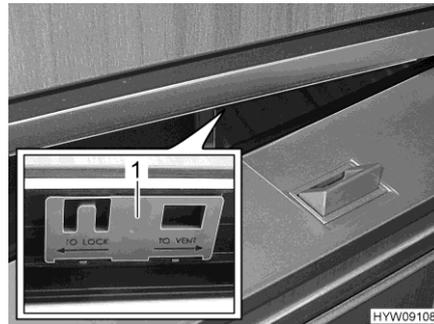

Fig. 95 Refrigerator door (ventilation position)
- Push slider (Fig. 95,1) towards the right.